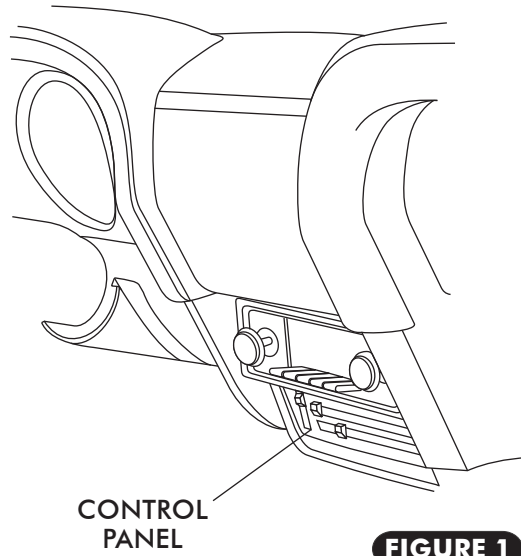

FIGURE 1
- REMOVE THE (3) OEM MOUNTING SCREWS FROM CONTROL PANEL. SEE FIGURE 1